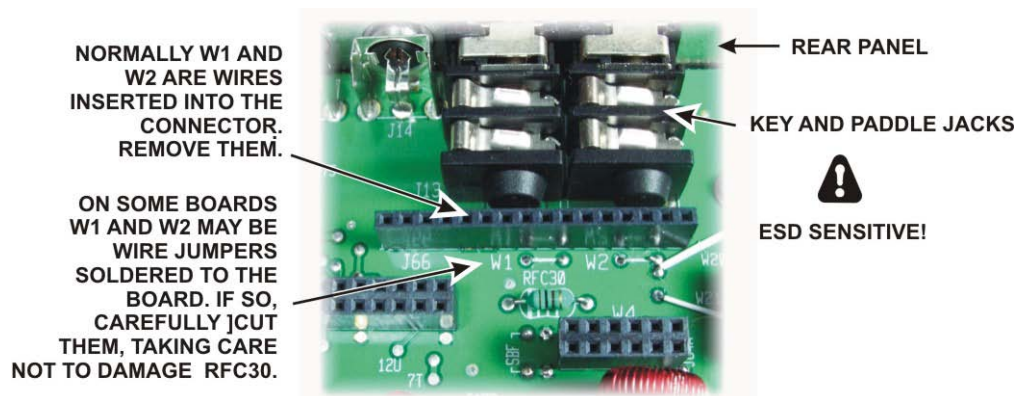

Figure 7. Removing Jumpers W1 and W2.
- ☐ Remove jumpers W1 and W2. The jumpers may be wires plugged into connector J66, or they may be wire jumpers soldered to pads on the RF board (see Figure 7). If soldered to the board, take care not to lose any pieces of wire inside the K3. No more than 1/8" (3mm) of lead length should be left to avoid the possibility of shorting to a nearby circuit. *Take care to identify the correct jumpers. Do not cut nearby jumpers W20 or W21!*